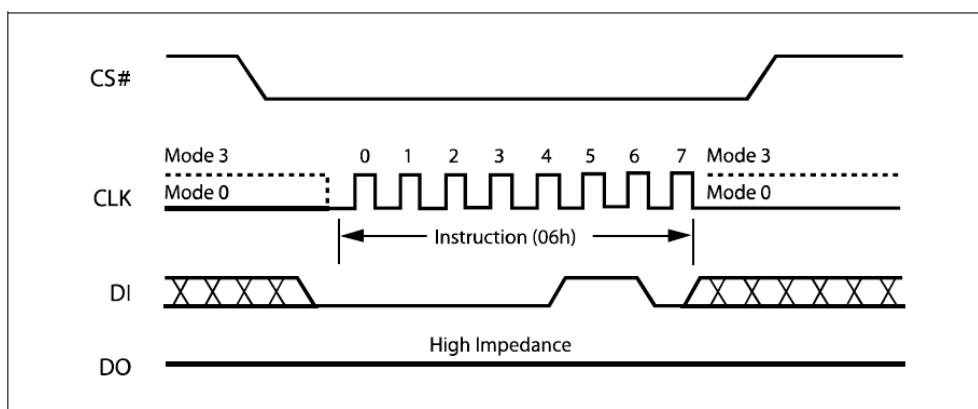

Figure 8. Write Enable Instruction Sequence Diagram
The Write Enable (WREN) instruction (Figure 8) sets the Write Enable Latch (WEL) bit. The Write Enable Latch (WEL) bit must be set prior to every Page Program (PP), Quad Input Page Program (QPP), Sector Erase (SE), Block Erase (HBE/BE), Chip Erase (CE) and Write Status Register (WRSR/ WRSR3) instruction.